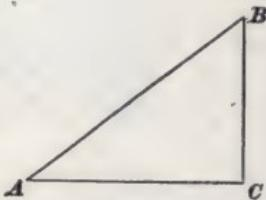

FIG. 26.
**EXAMPLE.**—If one acute angle, as  $A$ , of the right triangle  $A B C$ , Fig. 26, equals  $30^\circ$ , what does the angle  $B$  equal?